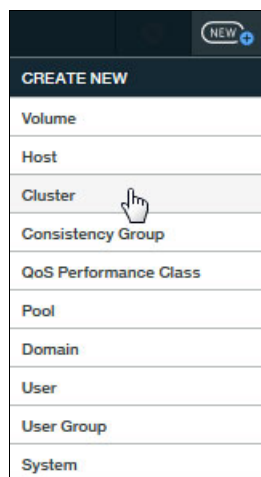

Figure 4-4 Creating a cluster
1. Click **NEW +** → **Cluster** to create a cluster, as shown in Figure 4-4.